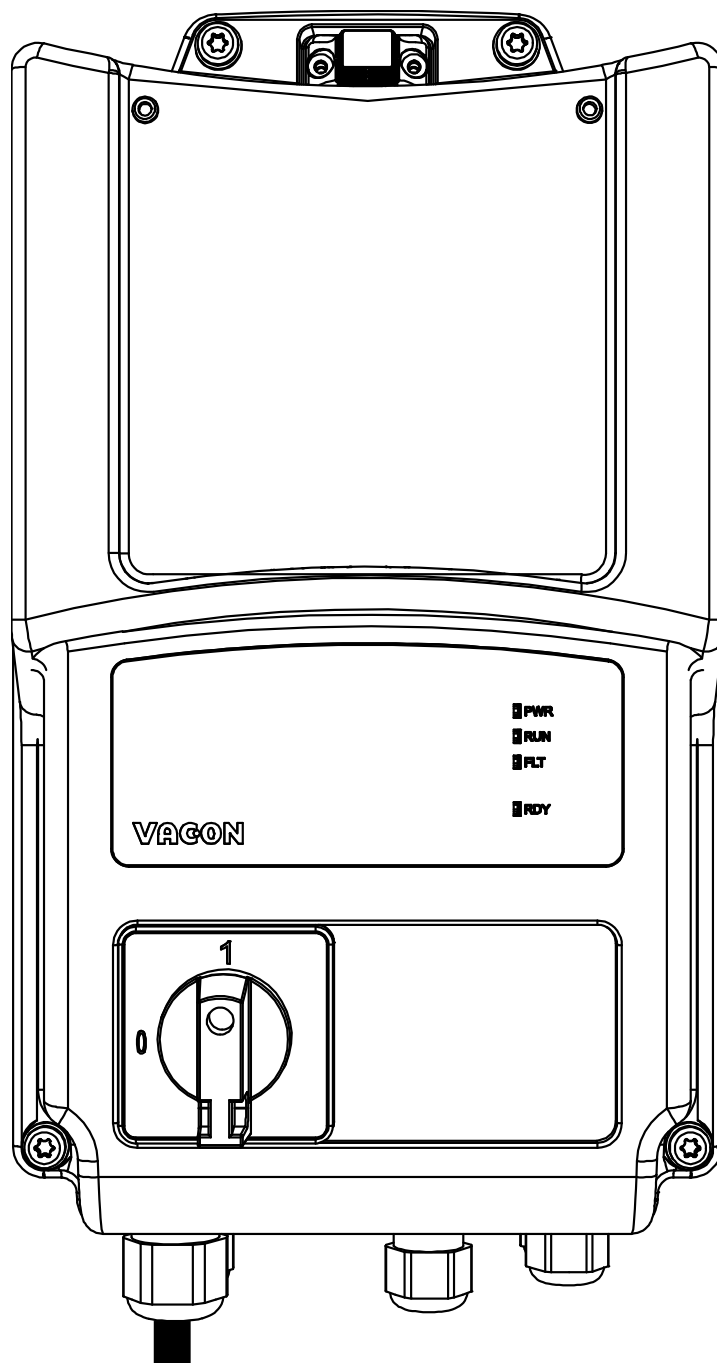

Figure 66. Mount the plastic cover.
- Mount the plastic cover onto the drive with its screws and HMI cap: the installation process has been completed. See Figure 66.